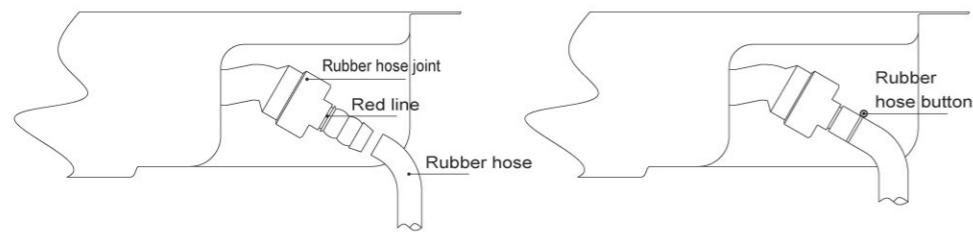

Fig.8
- (1) Buckle the rubber hose button to the hose, then hitch the hose to stove's air intake joint, till the red mark, and tightly constrict the rubber hose button. (refer to Fig.8)
- (2) Leak test: smear the joint part with tenuous and neutral cleanser(eg.soap subs), and open the general gas valve, if there is air bubble, please close the general gas valve soon, and repeat the action (1) and (2) until there is no air bubble.
- (3) If your family gas type is cylinder liquefied petroleum gas (LPG), please choose the qualified pressure reducing valve which is for family use. The gas pressure is 2800±500Pa.